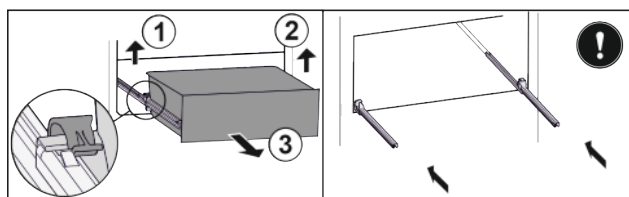

Fig. 29*
- ▶ Detach the drawer on the left *Fig. 29 (1)*.*
- ▶ Detach on the right *Fig. 29 (2)*.*
- ▶ Take out to the front *Fig. 29 (3)*.*